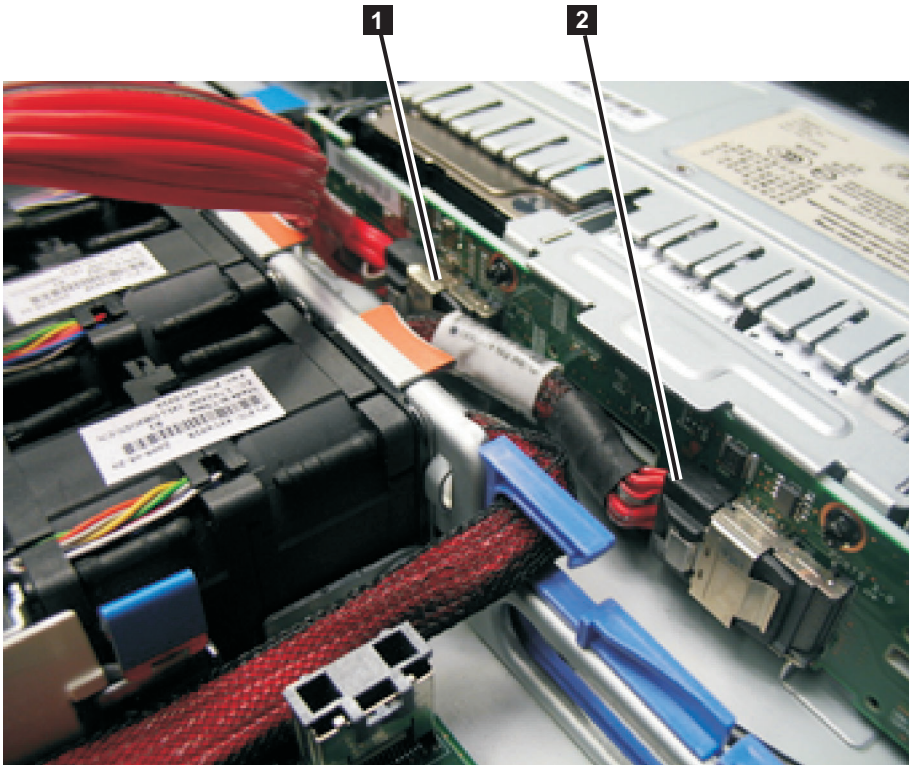

Figure 198. Boot-disk SAS cable and the high-speed SAS cable connected to the disk backplane in the SAN Volume Controller 2145-CG8 or 2145-CF8
11. Disconnect the high-speed SAS cable from the SAS connector in the center of the back of the disk backplane, as shown in Figure 198 on page 214.